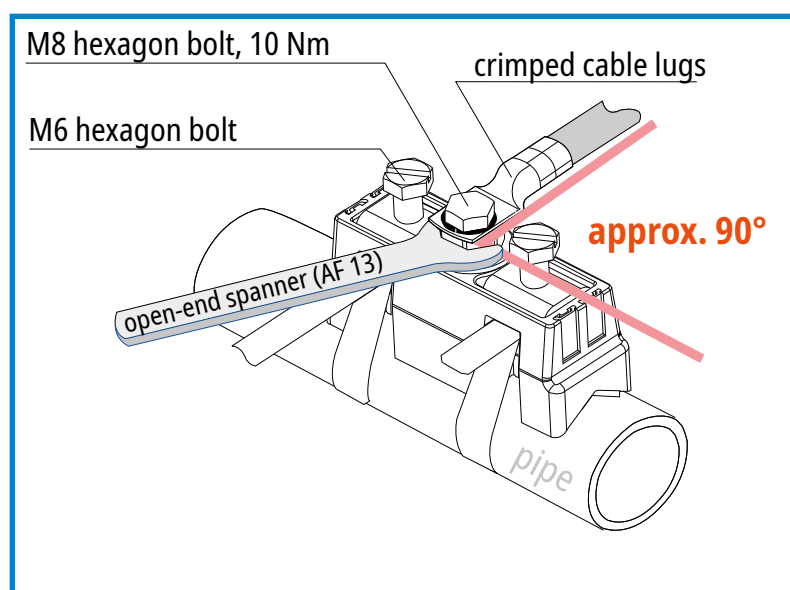

Fig. 3.4 Connection via crimped cable lug
- ➔ When connecting the conductors (via crimped cable lug) to the **Ex-BRS 27** pipe clamp by tightening the M8 bolt, the contact pin must be held in place using an open-end spanner (width across flats 13) (tightening torque 10 Nm). It must be ensured that the conductor to be connected, including the crimped cable lug, does **not** contact the clamping unit (M6 hexagon bolt, grip head and tensioning strap) or the pipe (see Fig. 3.4).